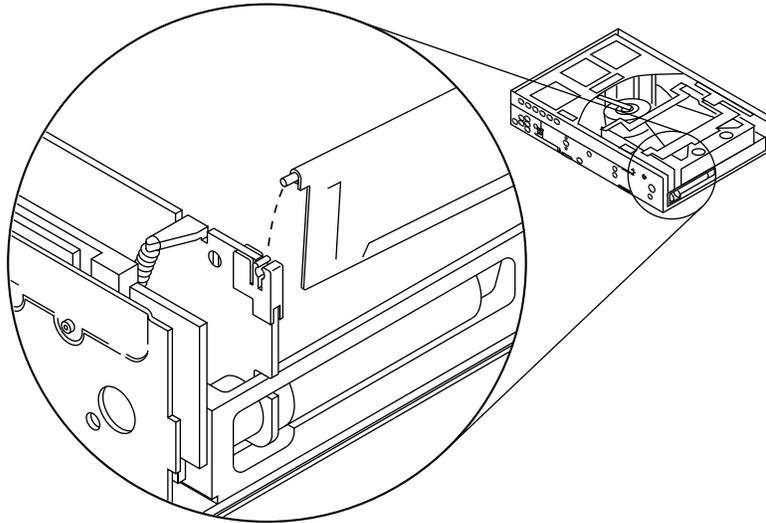

Figure 5 Removing the left hinge pin
1. Lift the left end of the door hinge pin from the left door clip as shown in Figure 5.